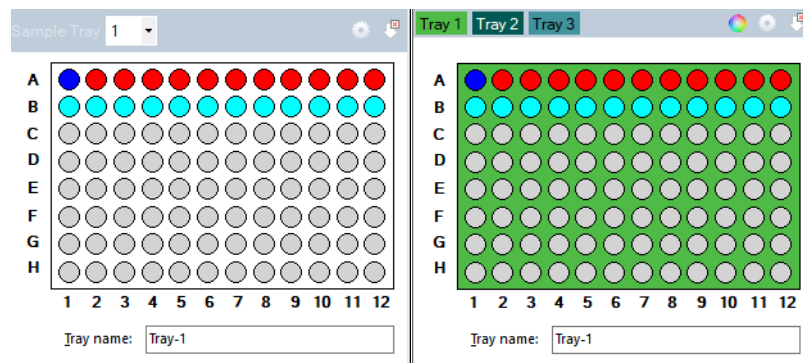

Figure 35 Classic drop-down tray selection (left) or colored tab tray selection (right)
Select the sample tray to be used from either the **Sample Tray** drop-down list or the colored tab tray selection, depending which configuration is set (**Figure 35**).
- 2 Choose between the sample tray drop-down list or the colored tab tray selection (**Figure 35**).
- 4 To select a row from the 96-well plate depicted in the sample and sample tray selection window, left-click once in that row (**Figure 35**). To select a new row, left-click on another row.
5 To clear a row selection, select  (Figure 35).
The **Tray name** field of the selection window allows you to input a name for the tray being run (Figure 35). You can also click in this field and use a bar code scanner to import sample names for the plate being run.